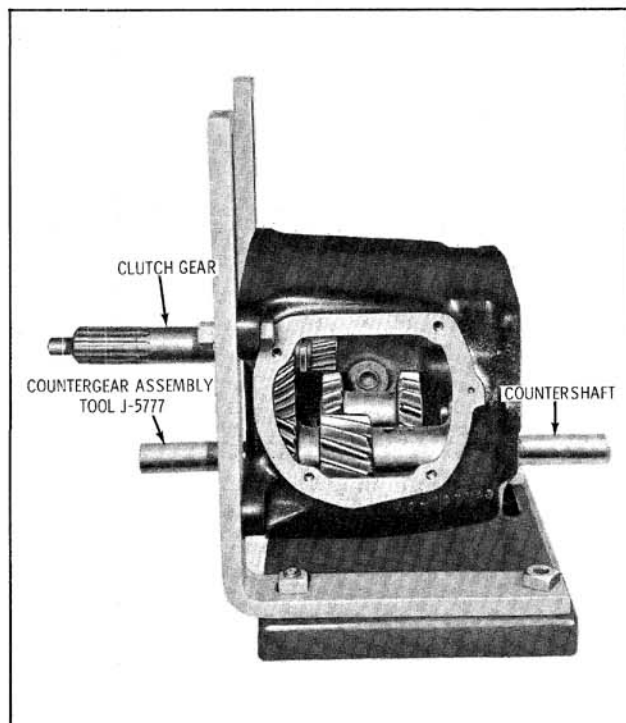

Fig. 7-21 Assembly of Countershaft
10. Lubricate and insert countershaft in rear of case, align countergear with shaft and tap shaft through, pushing assembly tool out front of case. (Fig. 7-21)